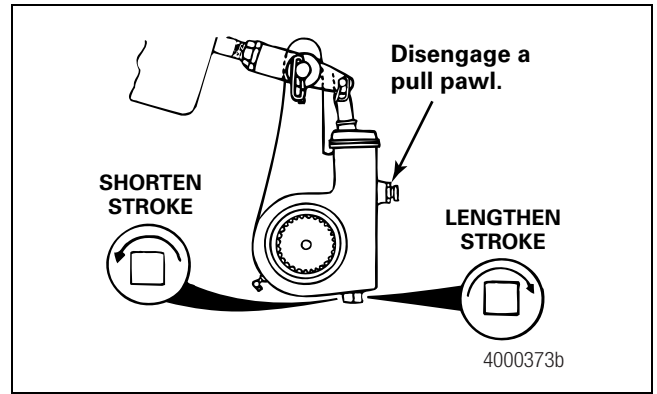

Figure 70
- **If the free stroke measurement is not within specification:** Turn the adjusting nut 1/8 turn in the direction shown in Figure 70 and check the free stroke again. Continue to measure and adjust the stroke until the measurement is within specification.